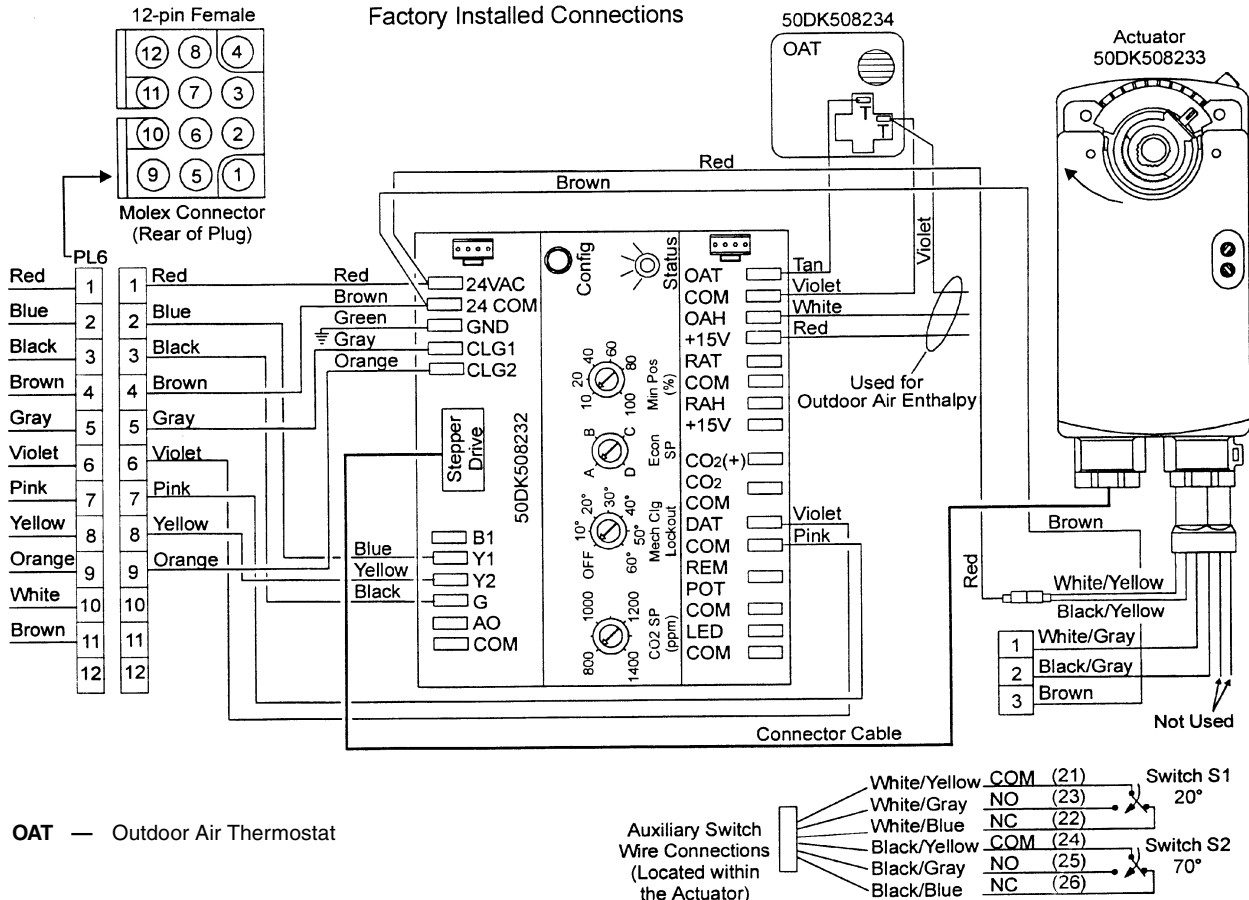
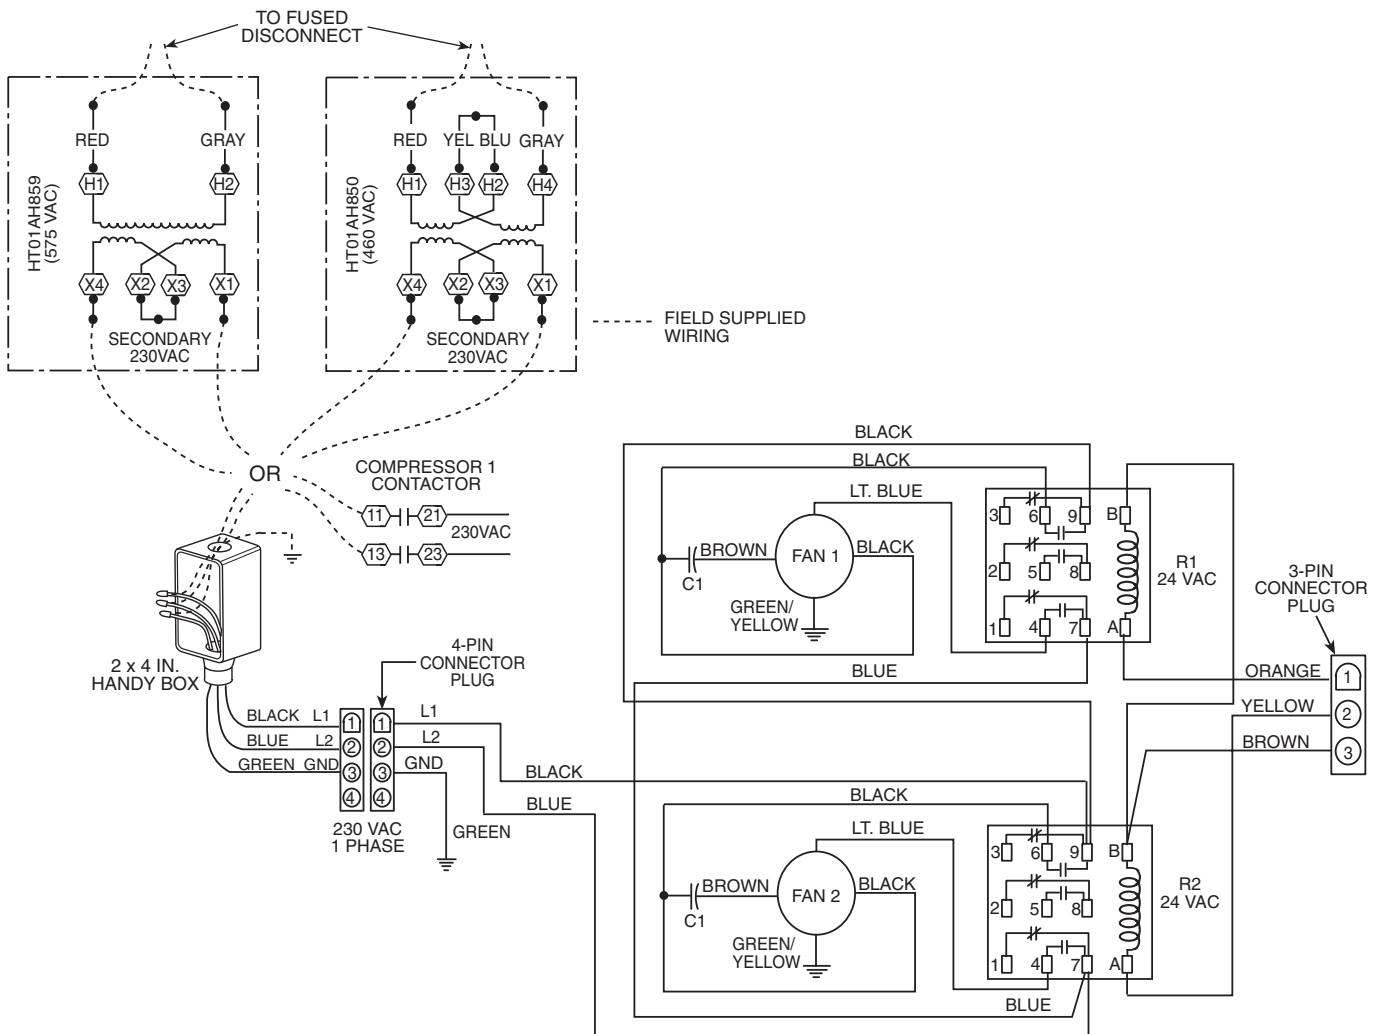

Fig. 39 — EconoMiSer Wiring
Fig. 41 — Wiring Diagram for Power Exhaust System
9. Remove and discard the 12-pin jumper plug from the unit wiring harness located in the upper left corner and insert the EconoMiSer plug into the unit wiring harness. Refer to wiring diagram Fig. 39 and 40. Also refer to Fig. 41 if installing an accessory power exhaust.